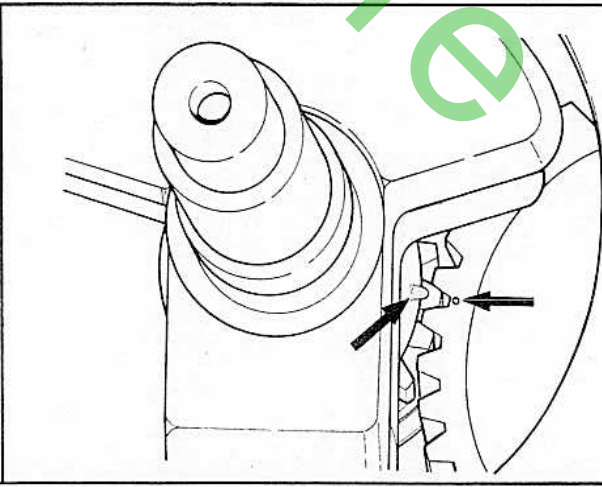

FIGURE 12-6 TIMING MARKS ON CRANKSHAFT AND CAMSHAFT
- b. Turn crankshaft and camshaft until timing mark on shoulder of crankshaft lines up with mark (dot) on cam gear as shown in Figure 12-6.